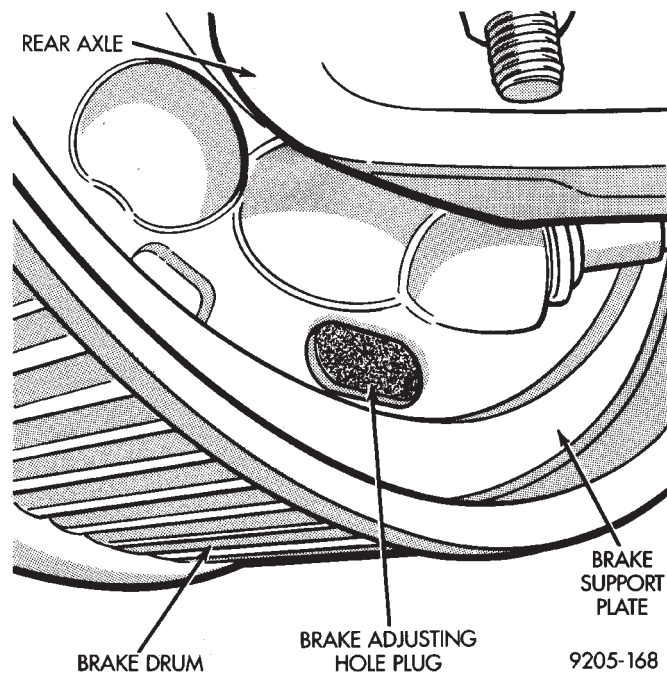

Fig. 1 Brake Adjusting Hole Plug
(Fig. 1), from the rear brake shoe support plate.
(6) Repeat above adjustment at the other rear wheel. Install adjusting hole rubber plugs (Fig. 1) in rear brake supports.
(7) Adjust parking brake **after** wheel brake adjustment.